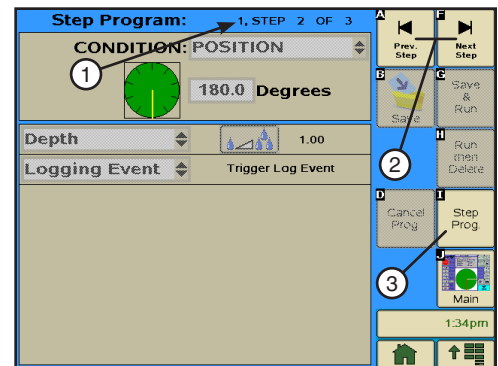

Figure 117-3 1. Step 2 of 3 Indicator
4. Use the **Next Step** and **Prev. Step** buttons to move through the steps. Refer to Figure 117-3.